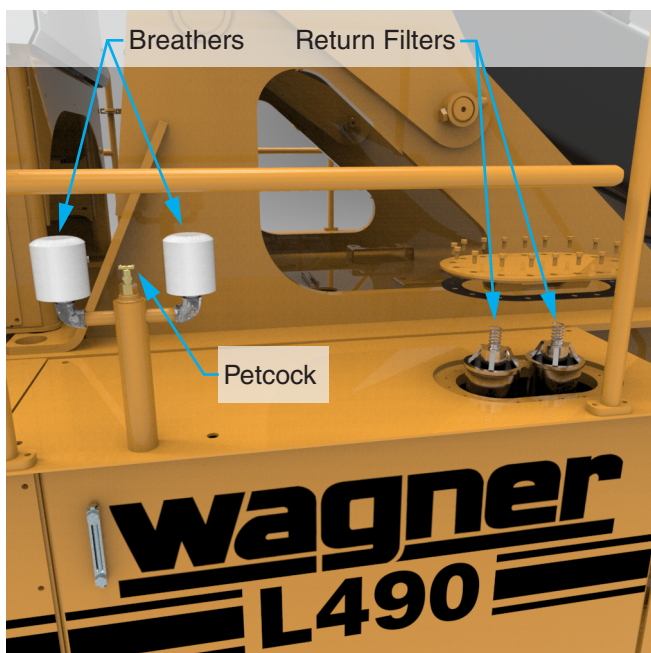

Figure 5-5-9 Return Filters
The return filters are accessed from the deck on the right side of the machine. See Figure 5-5-9.
1. Shut down the machine and vent captive pressure by opening the petcock at the breather. See Figure 5-5-9.